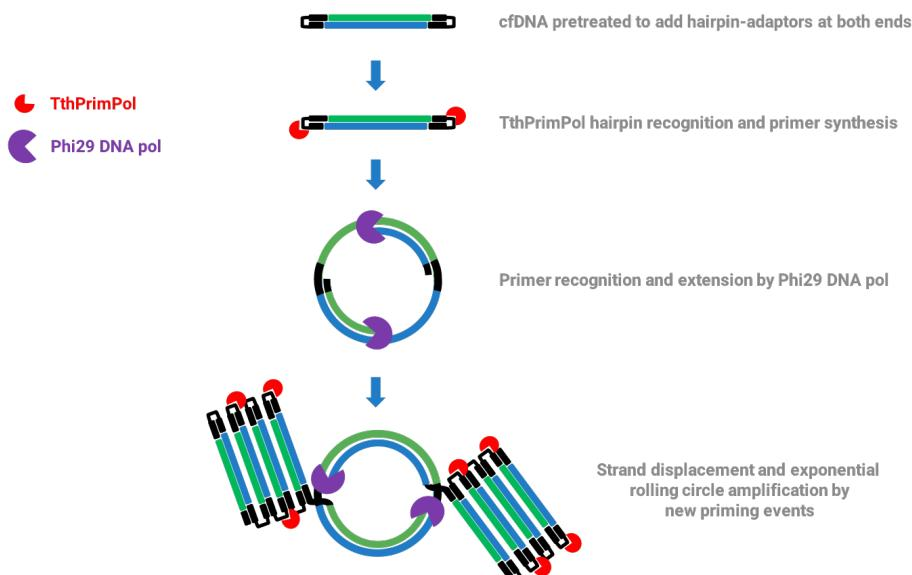

Figure 3. Amplification mechanism of the novel 4BB™ TruePrime® kit for apoptotic cell-free DNA
*TthPrimPol* generates primers on the hairpin-adaptors that are extended by Phi29 DNA pol. The strong strand displacement capacity of Phi29 DNA polymerase allows *TthPrimPol* to synthesize new primers on the new hairpins generated, resulting in exponential isothermal DNA amplification (Figure 3).